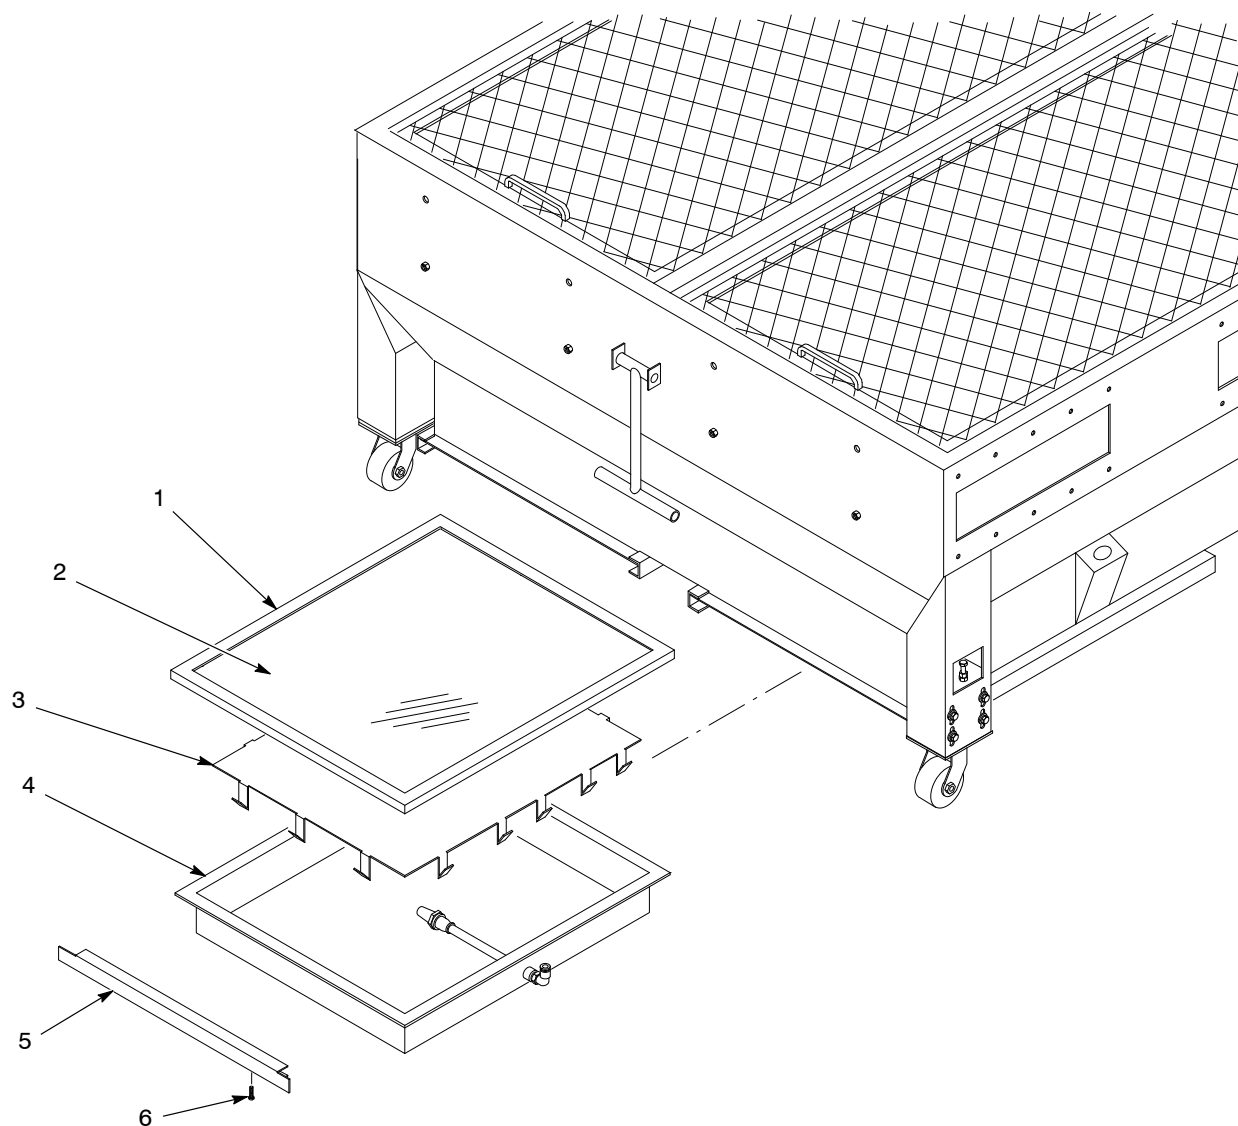

Figure 7-3 Color Module Fluidizing Plate Replacement (Horizon 400 Shown)
1. See Figure 7-3. Unscrew the screws (6) on the clamping channels (5) about 6–10 mm (0.25–0.375 in.) to clear the fluidizing plate gaskets (1). Remove the outside clamping channels (5) (the inner clamping channels are welded to the color module).
2. Slide the fluidizing pans (4), fluidizing plates (2), and gaskets (1) out from under the color module.
3. Remove the fluidizing plates and baffles (3) from the pans. Discard the old plates and gaskets.